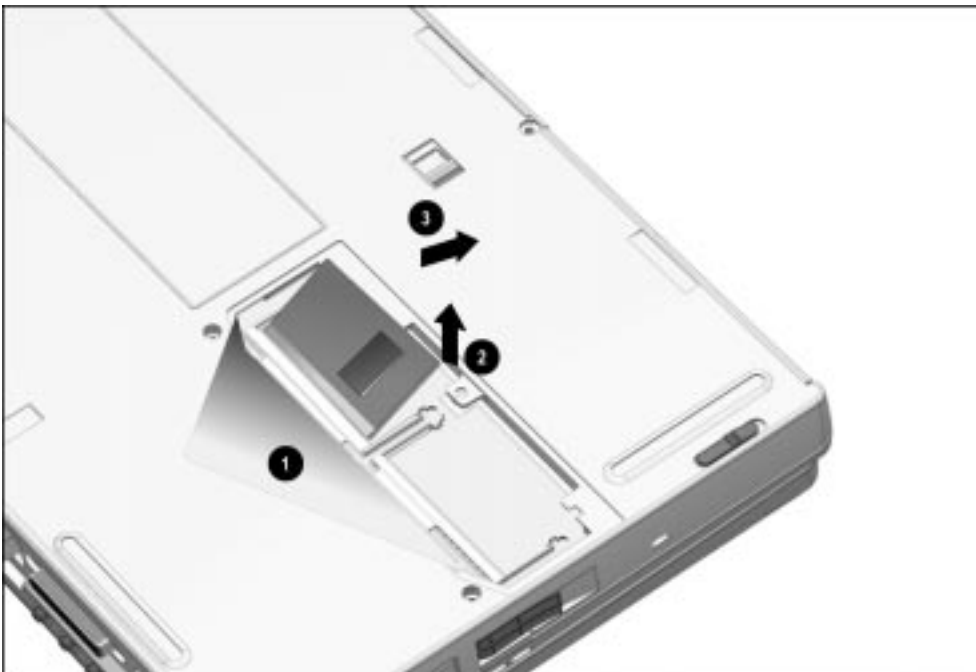

Figure 5-26. Removing a Memory Expansion Board
1. Lift and hold back the memory insulator ❶. The insulator is not removable (Figure 5-26).
3. Lift up the edge of the memory expansion board ❷.
4. Pull the memory expansion board out of the memory expansion slot at a 45-degree angle ❸.